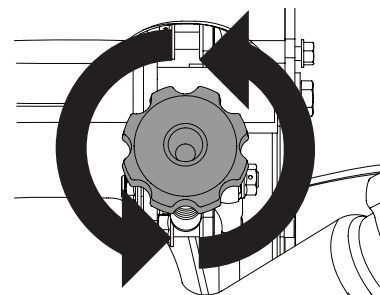

Figure 30
1. If the mower tracks (pulls) to the right, rotate the tracking knob to the left in 1/4-turn increments until the mower tracks straight (Figure 30). Turn left to go left.
2. If the mower tracks (pulls) to the left, rotate the tracking knob to the right in 1/4-turn increments until the mower tracks straight (Figure 30). Turn right to go right.